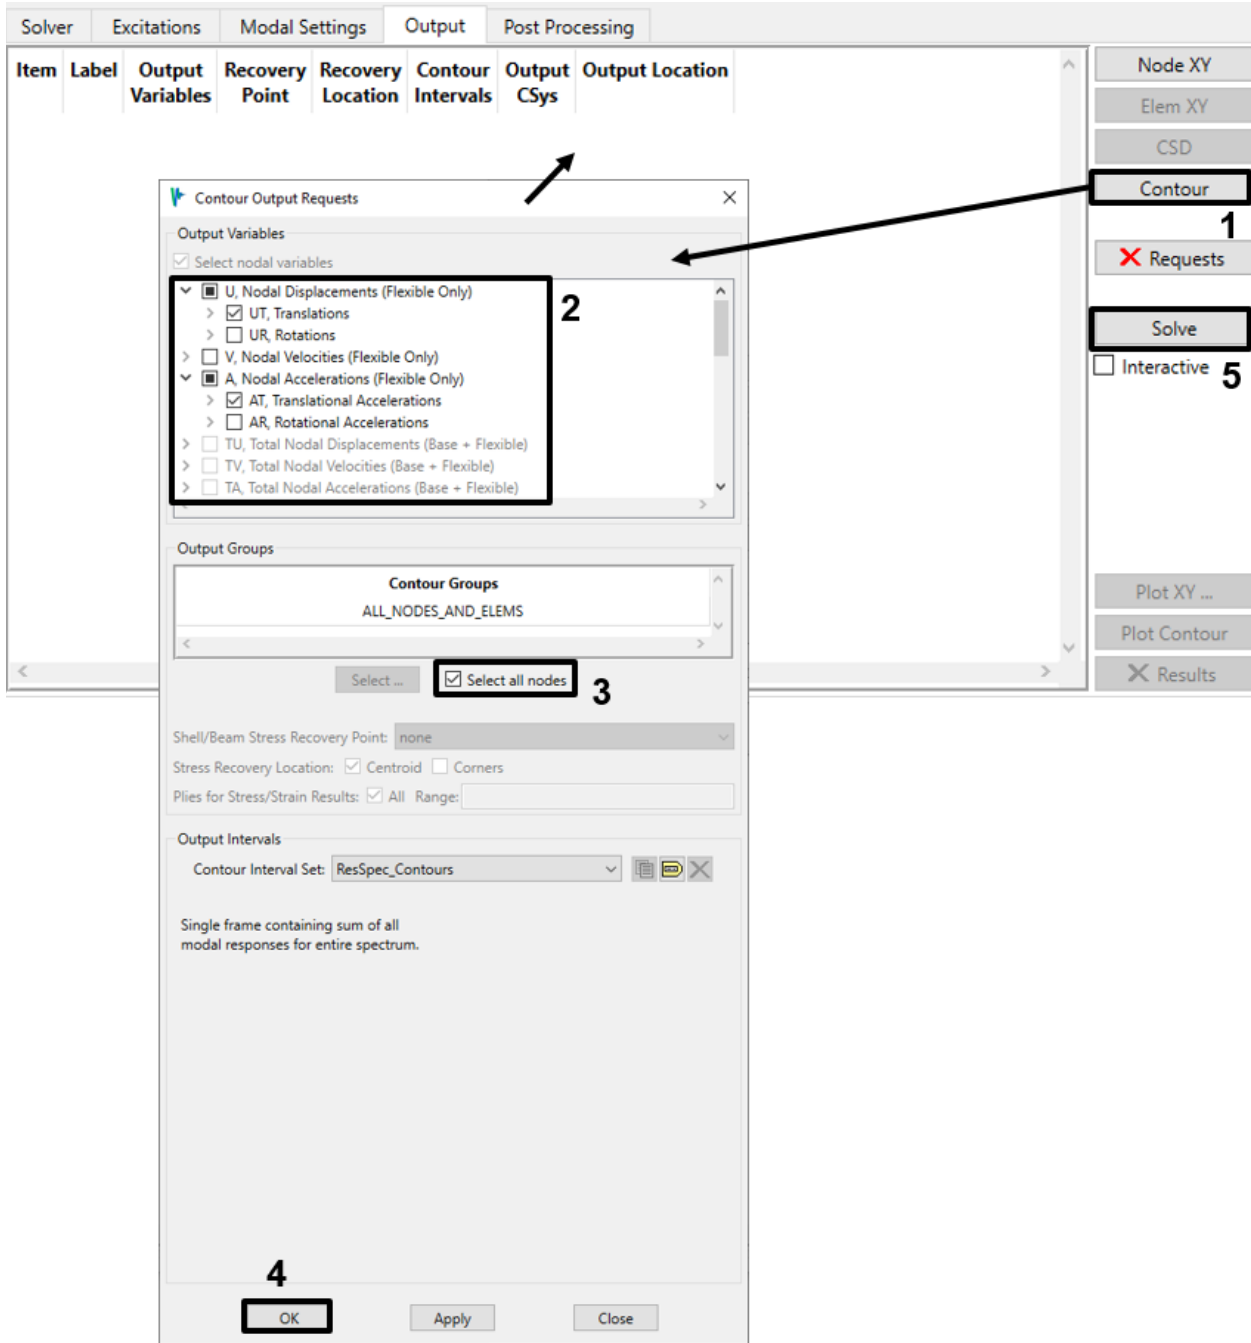

Figure 4-82. Request translational displacements and accelerations at all nodes.
- Go to the *Output* tab. Only contour output is available for response spectrum analysis, so create a contour request for displacement and acceleration (*UT*, *AT*) at all nodes (Figure 4-82). Note that the **Select nodal variables** toggle is checked and inactive; the normal modes solve did not request any elemental data. Solve the event but do not plot the contours at this time.